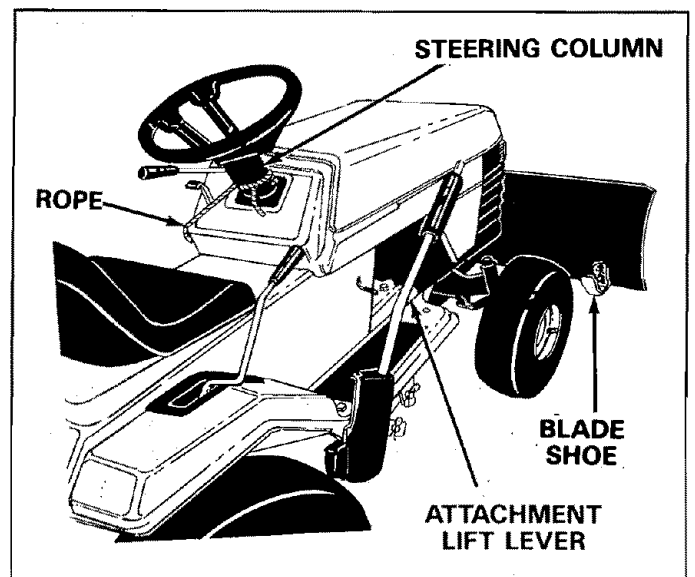

FIGURE 23
21. Move tractor attachment lift lever all the way back and lock in position. See figure 23, page 9.
Located on right hand side of tractor. See figure 23, page 9. Move lever forward to lower snow blade. Pull lever back to raise and lock snow blade.
Located on top of lift control lever. See figure 23. Pull back on lift control lever and depress plunger to release.
Blade shoes on ends of blade, (see figure 23), may be raised for close work on smooth surfaces or lowered to raise the blade to work on rough or uneven areas. Make sure both shoes are set evenly and nuts are tightened securely.